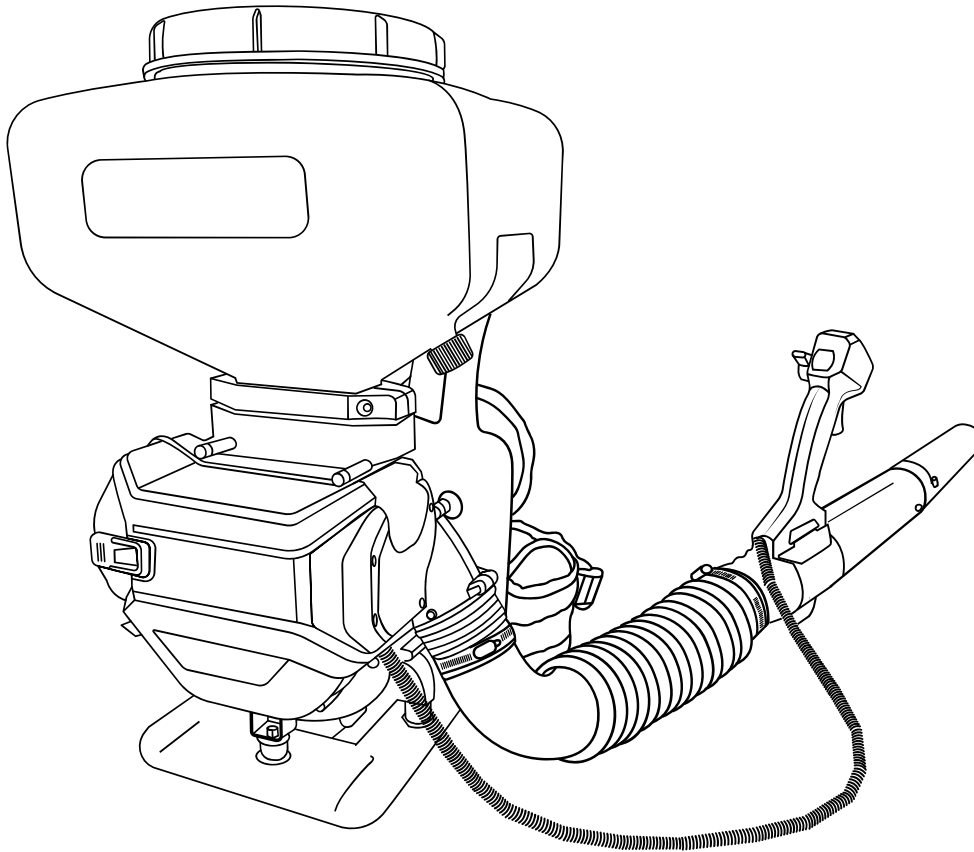

FIGURE 6
4.2.5 The eTGS30 Battery Powered Fertilizer Spreader is fully assembled. **FIGURE 6.**